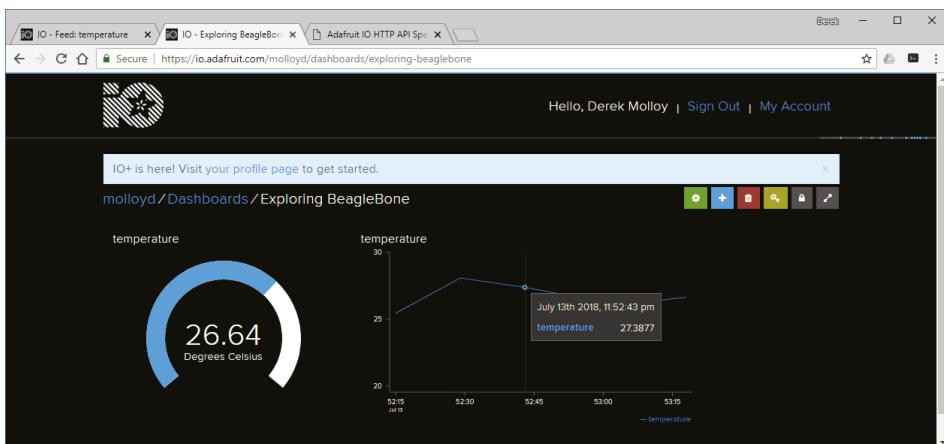

Figure 11-18: The Adafruit IO platform in operation
Figure 11-18 illustrates the outcome from the instruction in this section, in which the Adafruit IO account is configured to work with the MQTT publisher client code in the previous section to create a temperature sensor logging platform. A separate MQTT subscriber client on a Beagle board can then connect to the Adafruit IO service to retrieve sensor measurements.
4. Create a new dashboard to visualize your IoT data as in Figure 11-20. This dashboard contains blocks, which are visualization glyphs that can be used to represent the data that you pass to the Adafruit IO server. In Figure 11-18 I use a Gauge and a Line Chart block. These dashboards can be shared publicly as long as the feeds are also public.